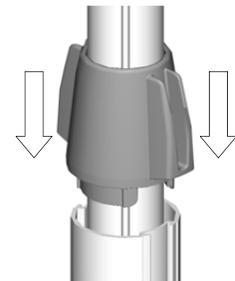

Figure 25
- Remove the level from the post by sliding it up off the bottom portion of the post. Slide the blue locking device down to fit into the bottom part of the post to lock the post in place (see Figure 25).